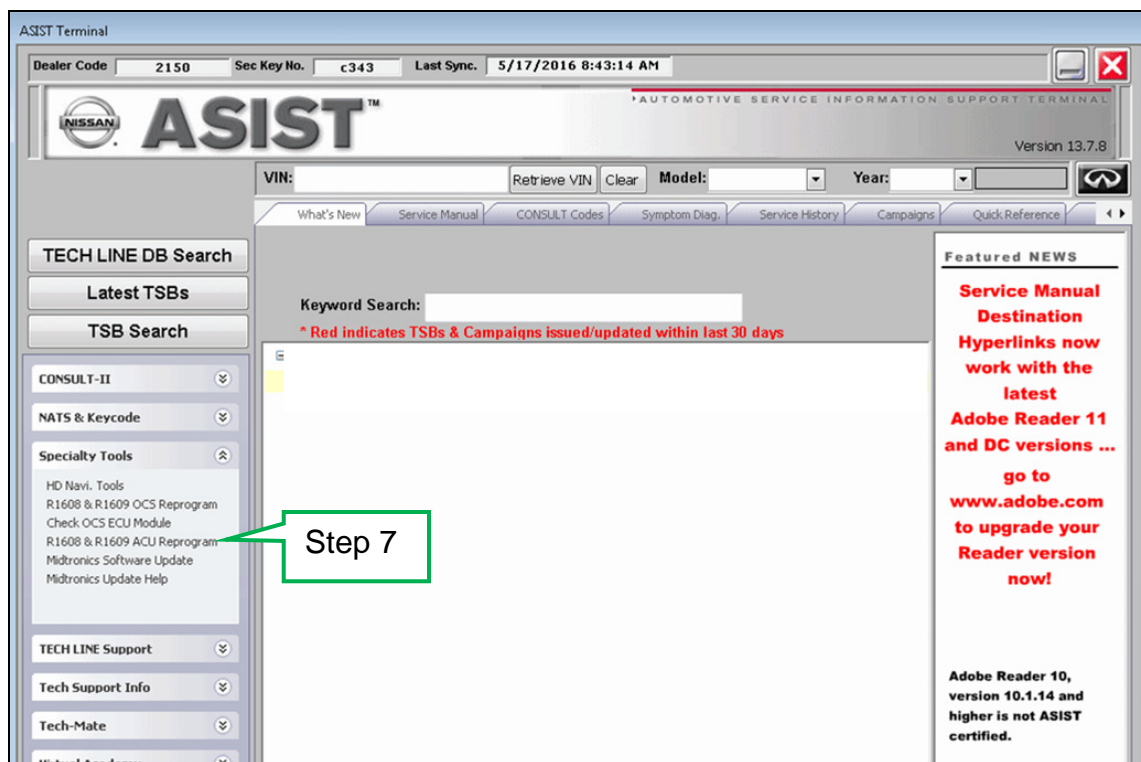

Figure 15
7. Start the CONSULT PC, open ASIST and then select “**R1608 & R1609 ACU Reprogram**” on ASIST under Specialty Tools (Figure 15).